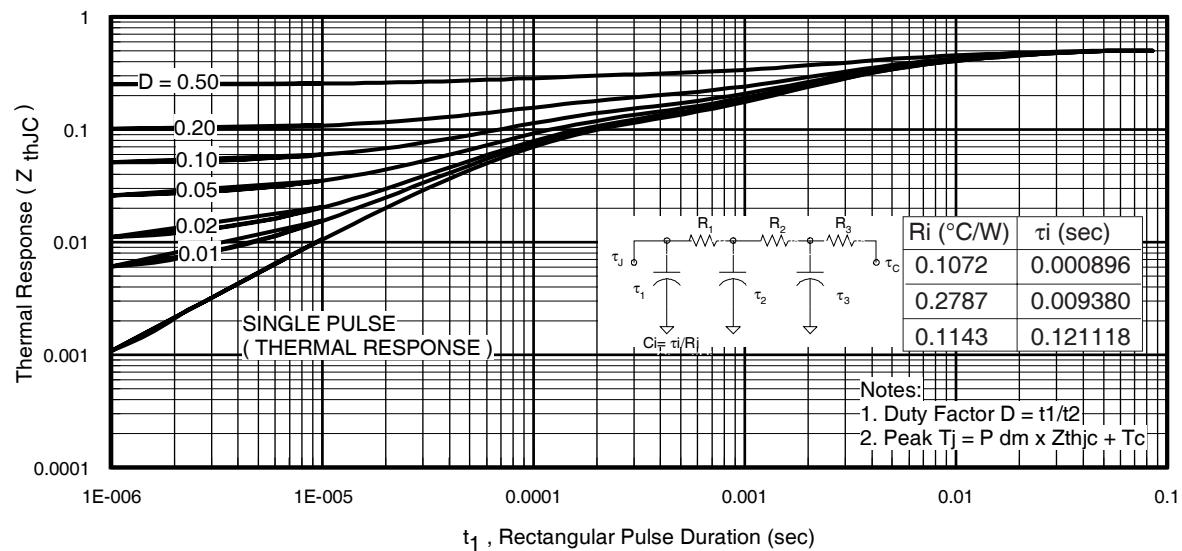
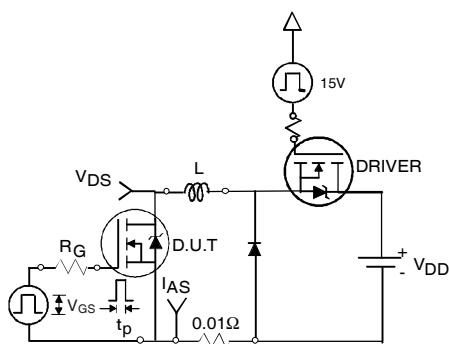

Fig 11. Maximum Effective Transient Thermal Impedance, Junction-to-Case
Fig 12a. Unclamped Inductive Test Circuit
- ① Repetitive rating; pulse width limited by max. junction temperature. (See fig. 11).
- ② Limited by $T_{J\text{max}}$, starting $T_J = 25^\circ\text{C}$, $L=0.026\text{mH}$, $R_G = 25\Omega$, $I_{AS} = 110\text{A}$, $V_{GS} = 10V$. Part not recommended for use above this value.
- ③ Pulse width $\leq 1.0\text{ms}$; duty cycle $\leq 2\%$.
- ④ $C_{oss \text{ eff.}}$ is a fixed capacitance that gives the same charging time as C_{oss} while V_{DS} is rising from 0 to 80% V_{DSS} .
- ⑤ Limited by $T_{J\text{max}}$, see Fig.12a, 12b, 15, 16 for typical repetitive avalanche performance.
- ⑥ This value determined from sample failure population. 100% tested to this value in production.
- ⑦ This is applied to D²Pak, when mounted on 1" square PCB (FR-4 or G-10 Material). For recommended footprint and soldering techniques refer to application note #AN-994.
- ⑧ R_θ is measured at T_J of approximately 90°C .
3. Equation below based on circuit and waveforms shown in Figures 12a, 12b.
$Z_{thJC}(D, t_{av})$ = Transient thermal resistance, see figure 11)